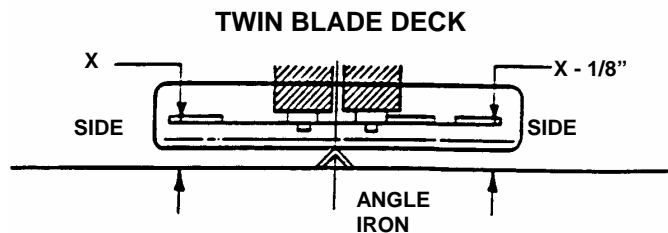

FIGURE 4.6
- e. Measure the distance from blade tips to floor. If the measurement is within  $1/8"$  from side-to-side, the deck levelness is satisfactory. If the difference from side-to-side is greater than  $1/8"$ , continue to the Step "f" for adjustment. See Figure 4.6.